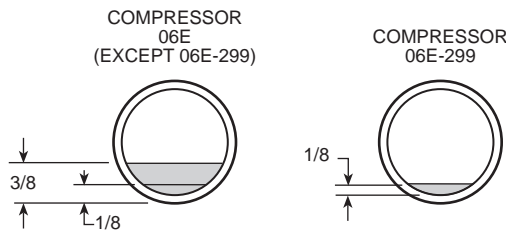

Fig. 44 — Operating Oil Levels (Sight Glass)
8. Oil should be visible in the compressor sight glasses. See Fig. 44. An acceptable oil level in the compressor is from $\frac{3}{8}$ to $\frac{1}{8}$ of sight glass (06E-299 compressors are $\frac{1}{8}$ of sight glass). Adjust the oil level as required. No oil should be removed unless the crankcase heater has been energized for at least 24 hours. Oil Charge section on page 49 for Carrier-approved oils.
Compressor Oil — Check that compressor oil is visible in the sight glass of the compressor. All units are factory charged with oil. See Table 3. Observe oil level closely at start-up. If oil level is below the sight glass and cannot be seen, add oil until the level is approximately 3/8 to 1/8 of sight glass (06E-299 compressors are 1/8 of sight glass). See Fig. 44. See Oil Charge section on page 49 for information on adding or removing oil.